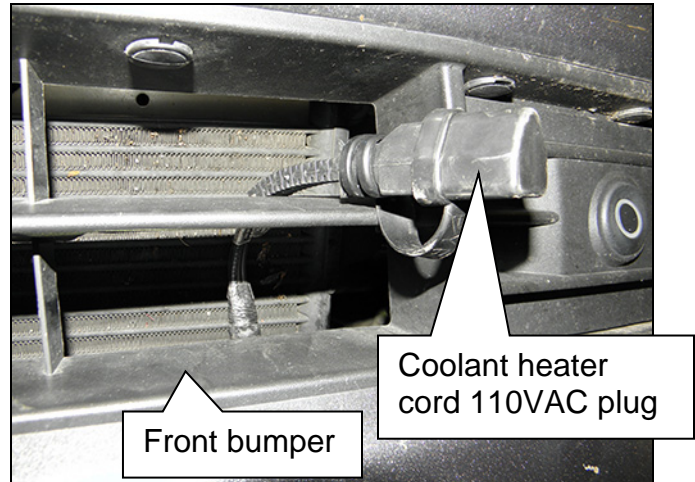

Figure 13
9. Route the coolant heater cord 110VAC plug through the front bumper as shown in Figure 13.